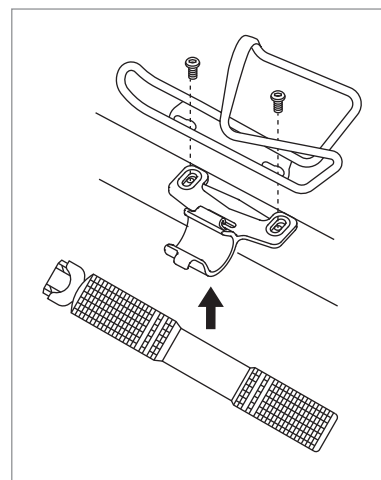

Figure 2
3. Attach to the frame using the provided M4 x 16mm long bolts. Using a torque wrench and 4mm hex bit, tighten to 3.0–4.0 Nm (fig. 2).